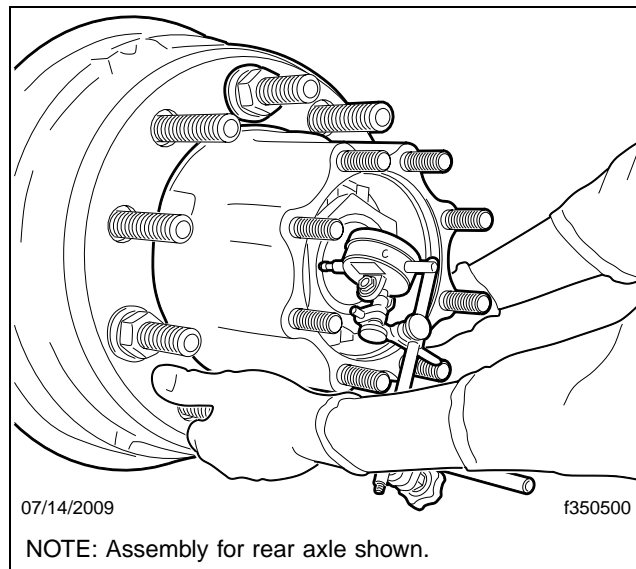

Fig. 28, Pulling the Hub Outward to Measure End Play
- 3.6 Pull the hub and drum outward while oscillating it as before. Maintain pressure on the hub, and note the outboard extent of the end play. See **Fig. 28**.